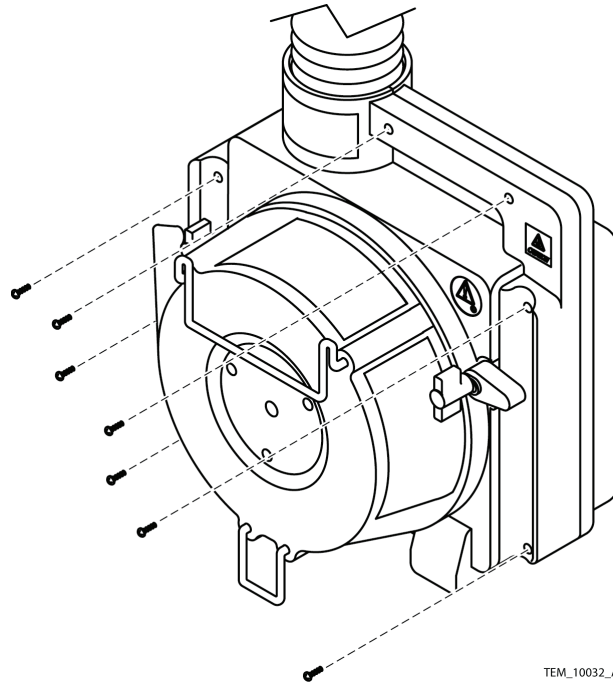

Figure 17. Cover Screw Locations
6. Remove the screws holding the front and rear covers together. See Figure 17.